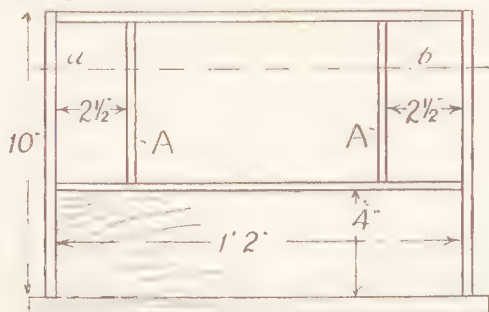
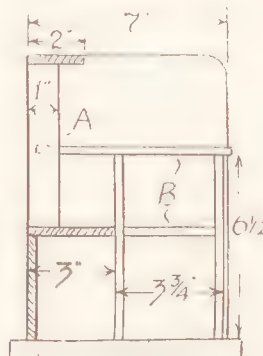

Fig. 1—Plan of the front
Fig. 2—End section
Fig. 1 is a front elevation, Fig. 2 a side section, with dimensions. For economy's sake it is, perhaps, better to use the $\frac{3}{4}$ in. deal mentioned for the shop sides and top cross piece. Cut these to dimensions given, and round off the rear top corners. At the spots where the counter will be nailed later, square lines across as a guide, to get the counter level, and not on the skew.
Inside the shop a set of shelves should be made and set up each side. These are seen in Fig. 2, and consist of two pieces (B) fixed to a pair of vertical uprights. The width of top shelf (B) is just 2 1/2 ins., so that its further end can fit between the vertical front strips. (A).
Cut the side parts, then the middle shelf to height and width in Fig. 2, and glue each side to butt up against the counter. The top shelf (B) is cut 7 ins. long, but is to be nailed on top later.